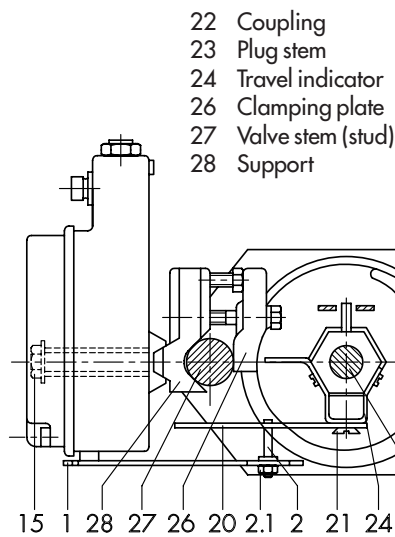

Fig. 5 · Attachment for valves with rod-type yokes
2.2 Valves with rod-type yokes (Fig. 5)